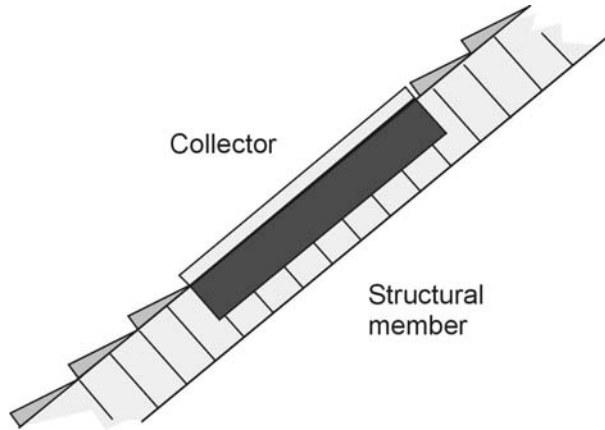

Figure 8 Integral-mounted collector
4. **Integral Mounting.** Integral mounting places the collector within the roof construction itself. The collector is attached to and supported by the structural framing members (Figure 8). The top of the collector serves as the finished roof surface. Weather tightness is crucial in avoiding water damage and mildew. Only collectors designed by the manufacturer to be integrated into the roof should be installed as the water/moisture barrier of buildings. The roofing materials and solar collectors expand and contract at different rates and have the potential for